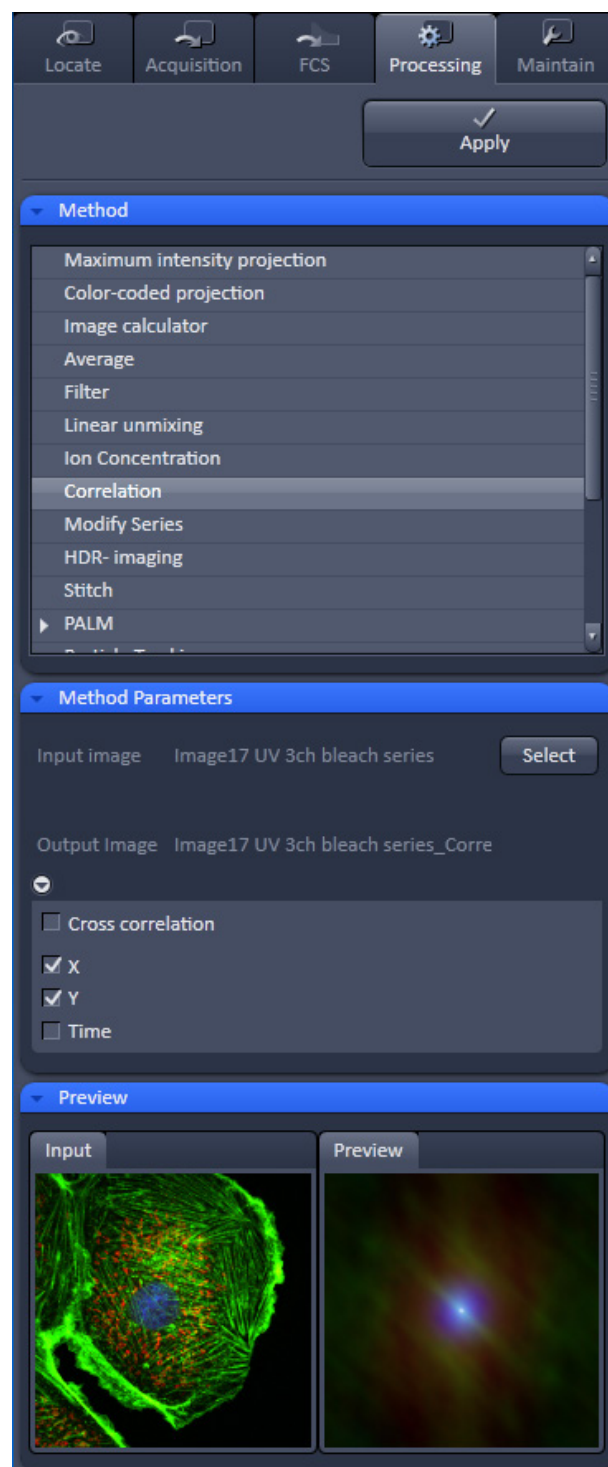

Fig. 118 Correlation window
- Activate **Correlation** in the **Processing** tool. The **Correlation** menu will appear (Fig. 118).